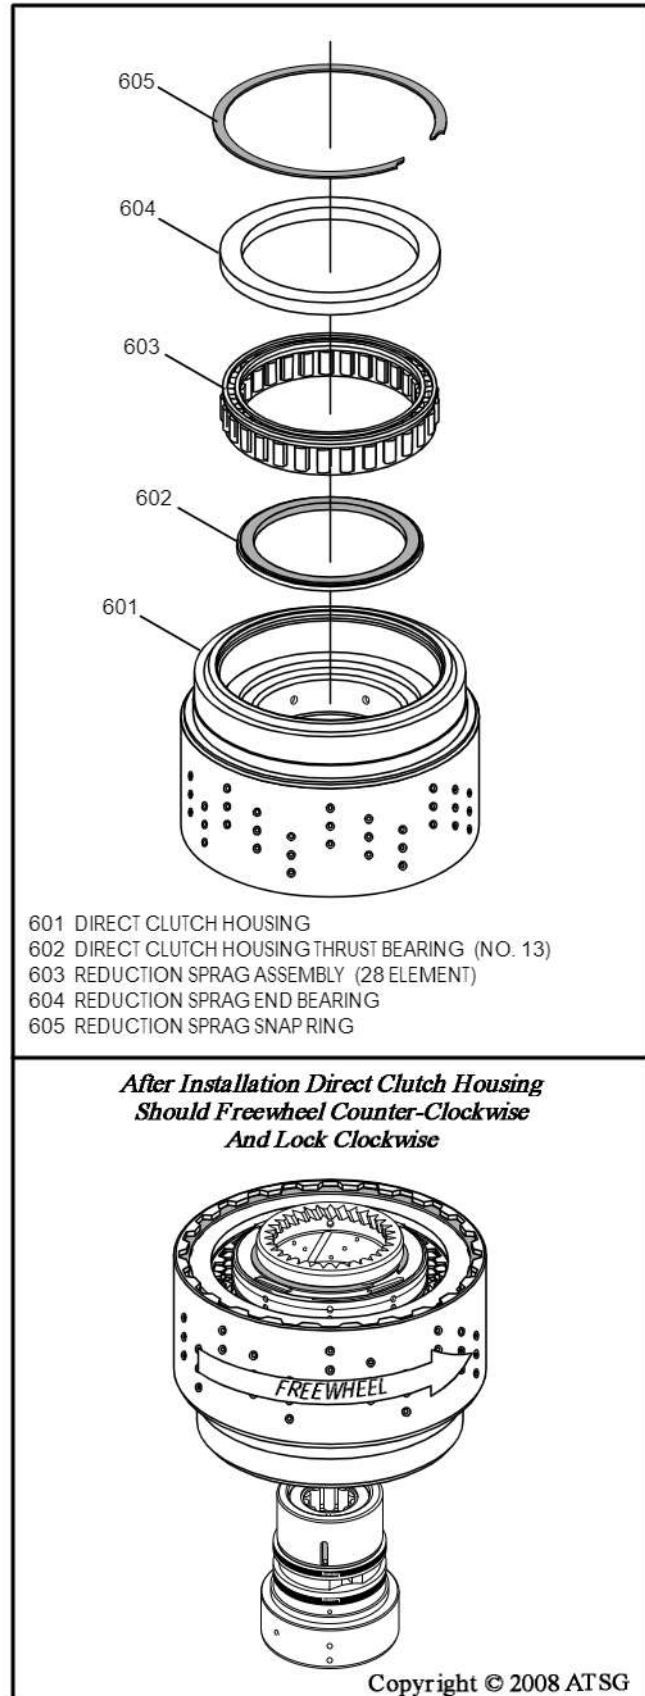

Figure 121
17. Turn the direct clutch housing over, as shown in Figure 121, and install the number 13 thrust bearing with the black side facing up.
18. Install the reduction sprag assembly into direct clutch housing, with the "lips" facing up, as shown in Figure 121.
19. Install the reduction sprag end bearing into the direct clutch housing, as shown in Figure 121.
20. Install the reduction sprag end bearing snap ring, as shown in Figure 121.
Note: Check for the proper sprag rotation, as shown in Figure 121.